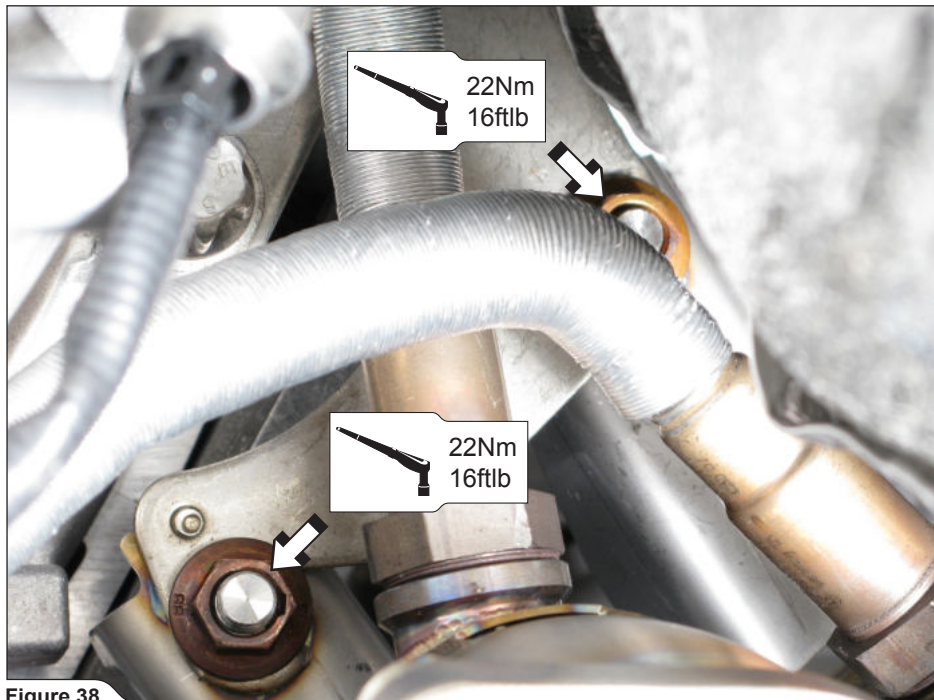

Figure 38
18. **For Evolution and optional Down Pipes:** tighten the Down Pipes bracket nuts to a specified torque (Figure 38).